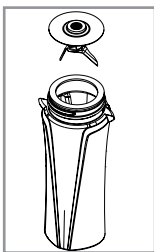

Figure 2
- Place blade into cup. (See Figure 2)